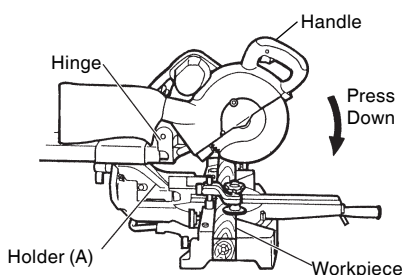

Fig. 26
Slide the hinge down to holder (A), then tighten the slide securing knob (see Fig. 2) as indicated in Fig. 26.